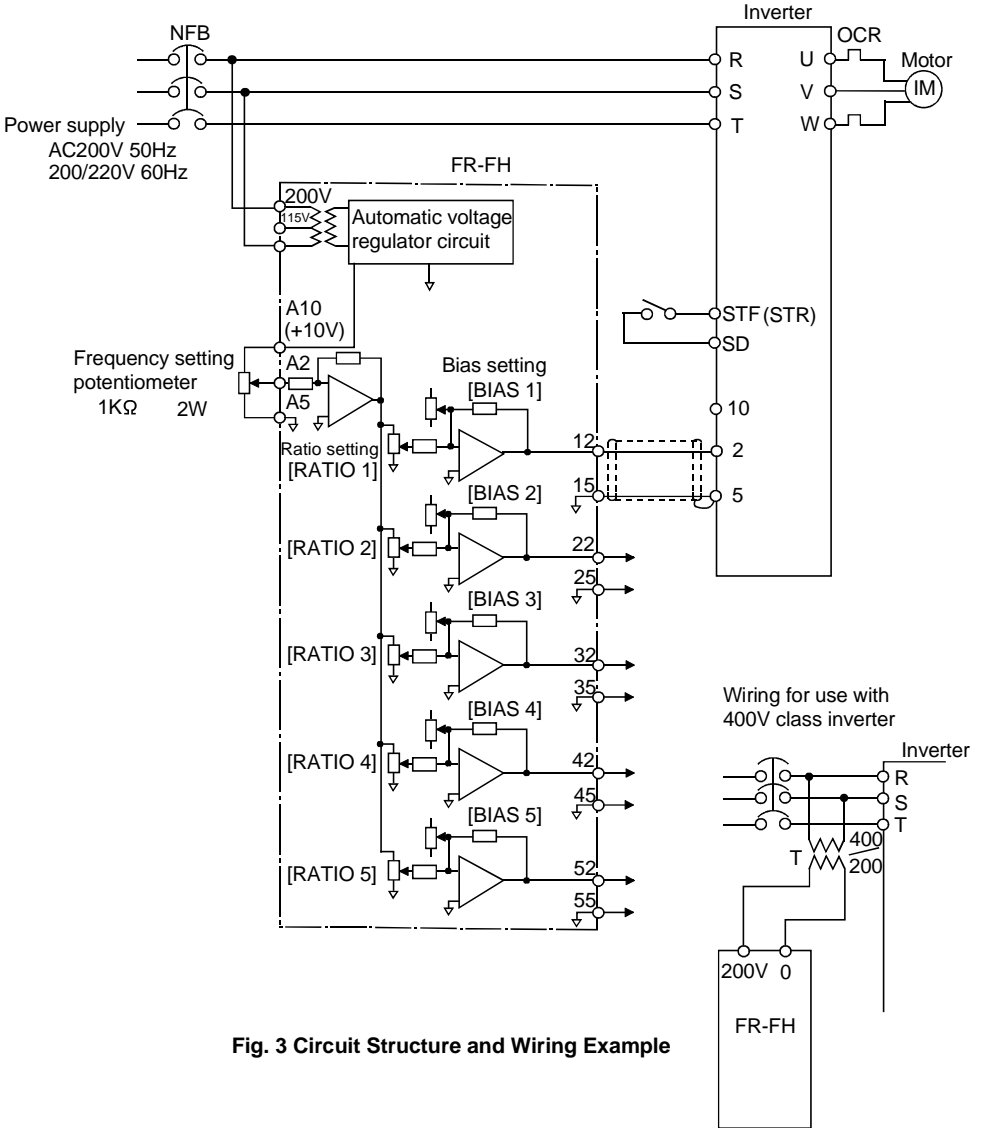

Fig. 3 Circuit Structure and Wiring Example
- (2) You can use a power supply of either single-phase 200V or 115V. When using a 200V power supply, wire it across terminals 200V-0. When using a 115V power supply, wire it across terminals 115V-0. Note that wrong wiring may burn the internal transformer. (Refer to Fig. 3 Wiring Diagram.)
- (3) When relay contacts are required in the signal line, connect two micro-current switching relay contacts in parallel (or a twin contact) to prevent a contact fault.
- (4) Use twisted or shielded cables as signal cables and run them away from the power cables.
The ratio setter has five ratio setter circuits consisting of operational amplifiers as shown in Fig. 3. Each circuit is provided with the ratio setting potentiometer (RATIO) and bias setting potentiometer (BIAS) which enable independent setting. The relationships (gains) between the input and outputs of each circuit are as follows. Note that this applies to the bias of 0.